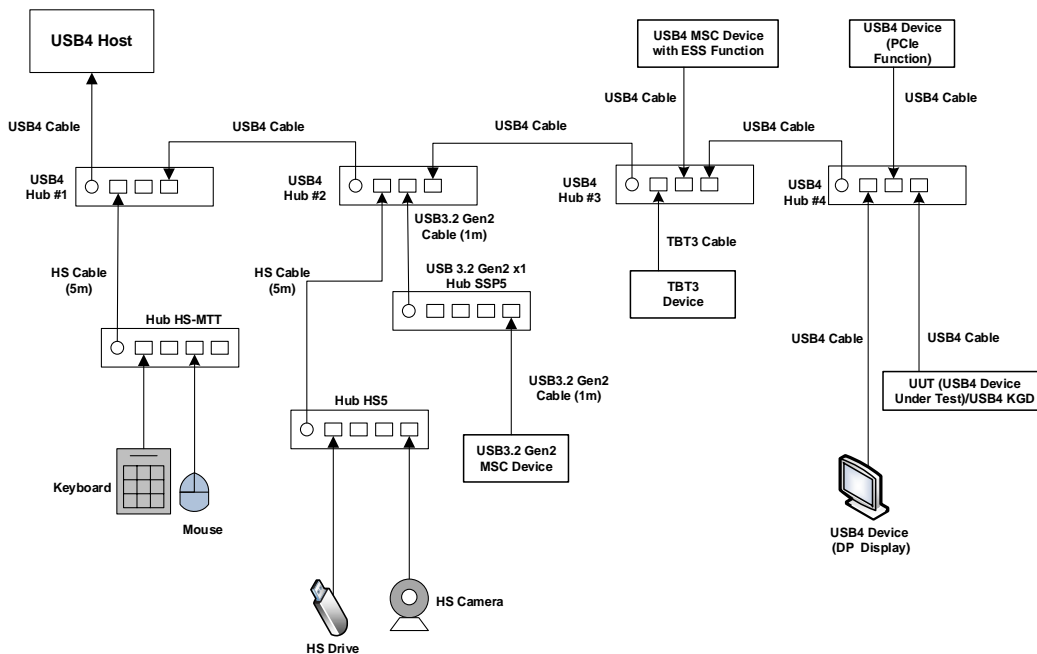

Figure A-1: USB4 Interop Tree (5 Hops) Topology
Construct the Interop Tree as outlined in Figure A-1.
**For USB4 Device Under Test (UUT):** The UUT (USB4 Device Under Test) should be connected to USB4 Hub #4 (in the USB4 KGD spot as shown in Figure A-1).
**For USB4 Host Under Test (UUT):** USB4 Host must be replaced with UUT (USB4 Host Under Test) and a USB4 KGD should be connected to USB4 Hub #4 (in the USB4 Device Under Test spot as shown in Figure A-1).
**For USB4 Externally Powered Hub Under Test (UUT):** USB4 Hub#1 and USB4 Hub#4 must be replaced with UUT's (USB4 Hubs Under Test) and a USB4 KGD should be connected to UUT #4 (in the USB4 Device Under Test spot as shown in Figure A-1). If a USB4 Hub has more than 3 ports or less than 3 ports the Interop Tree needs to be modified accordingly for testing.